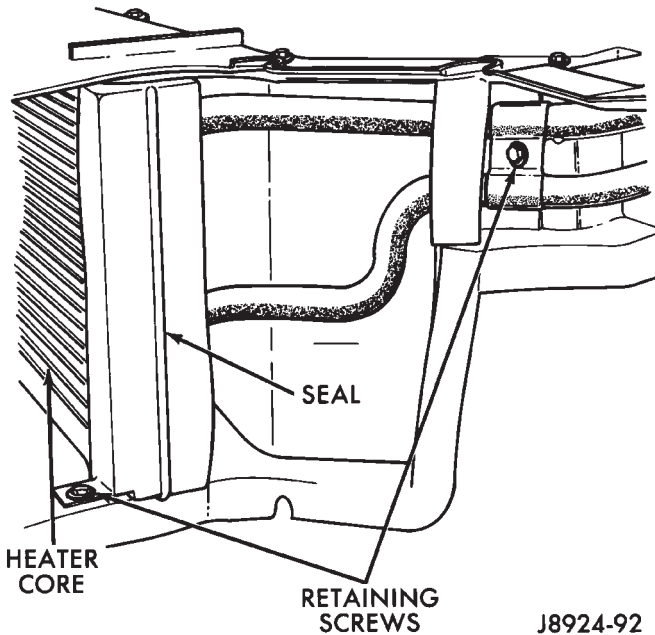

Fig. 12 Heater Core
- (1) Drain the radiator.
- (2) Disconnect heater hoses at heater core tubes.
- (3) Remove heater/evaporator housing side cover.
- (4) Remove retaining screws and remove heater core by pulling it straight out of the housing (Fig. 12).